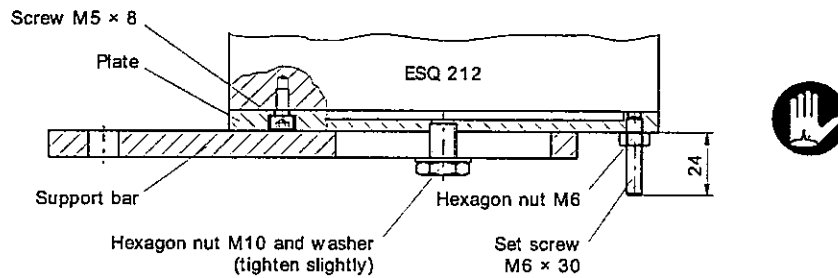

Fig. 4-1 Electron beam evaporation source on support bar
- Screw set screw M6x30 into the plate as shown in Fig. 4-1 and fix in place with hexagon nut M6. If there is adequate space, it is recommended to provide additional support for the electron beam evaporation source by mounting the second set screw.